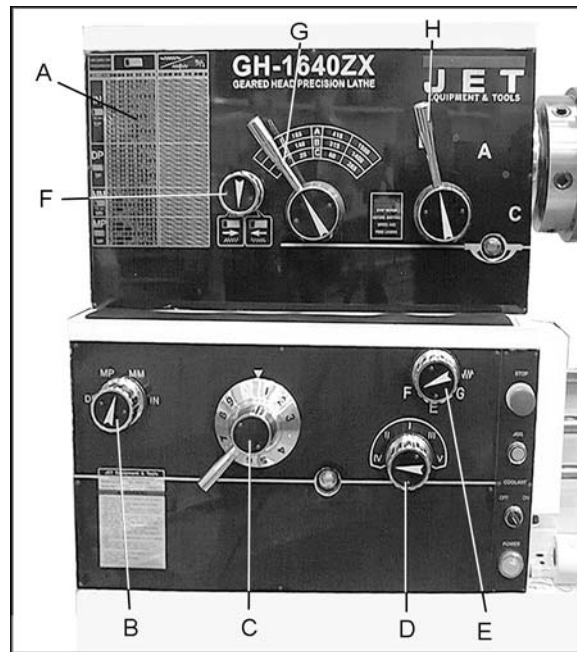

Figure 16
1. Reference the feed and thread chart on the front of the headstock (A, Figure 16).
2. Move levers and knobs (B/C/D/E, Figure 16) to the appropriate position according to the feed and thread chart.
1. Set forward/reverse lever (F, Figure 16) to desired direction.
2. Set selector levers (G/H, Figure 16) to desired R.P.M. [On EVS models, use lever H and the variable speed dial on the swivel control panel to select speed.]
3. Select desired thread using levers (B/C/D/E, Figure 16).